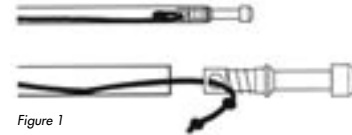

Figure 1
- In extremely cold weather or after extended use, the shock cord can lose some elasticity. In cold weather, simply pull the end pole section quickly back and forth to create enough heat to loosen the cord. If more tension is needed, unscrew the end tip, pull a few inches of cord and, tie a new knot in the cord. (See Figure 1.)